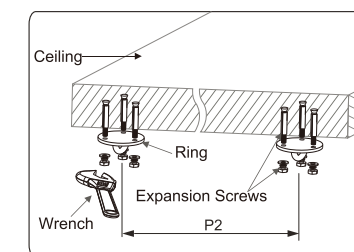

Figure 2
2. Fix the rings (not accessories) on the ceiling according the distance P2 between two hanging pieces of brake mechanism (note: make sure each of rings can endure at least 200Kg to avoid falling down) (figure 2).